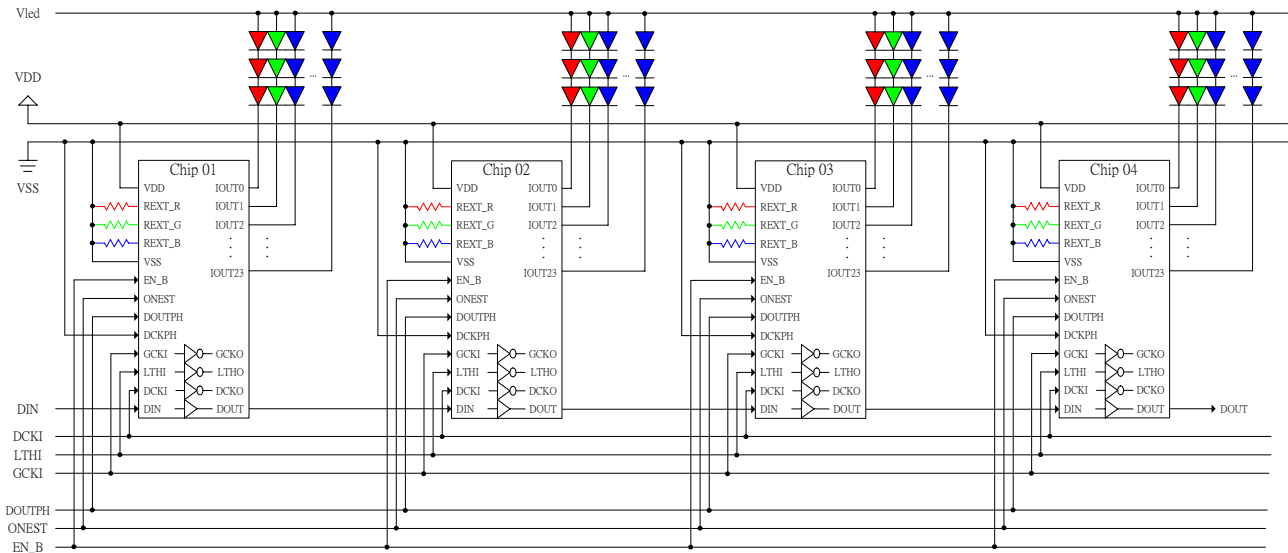

Figure 12. DCK LTH and GCK signals: Global Connected
- \* Each DCKPH input pin of all chips should be connected to the same voltage level. Figure 12 shows that all DCKPH pins are connected to VSS.